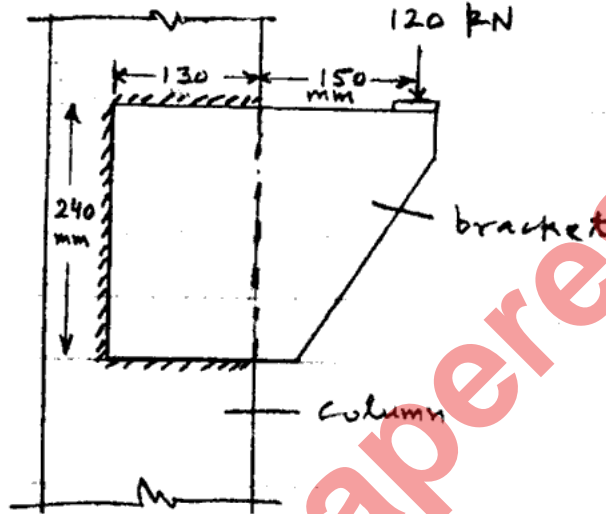

Fig. 2.
- (b) Calculate the size of weld required to support a factored load of 120 kN applied at a distance of 150 mm from the edge of the flange of column, on a plate bracket as shown in Fig.2.